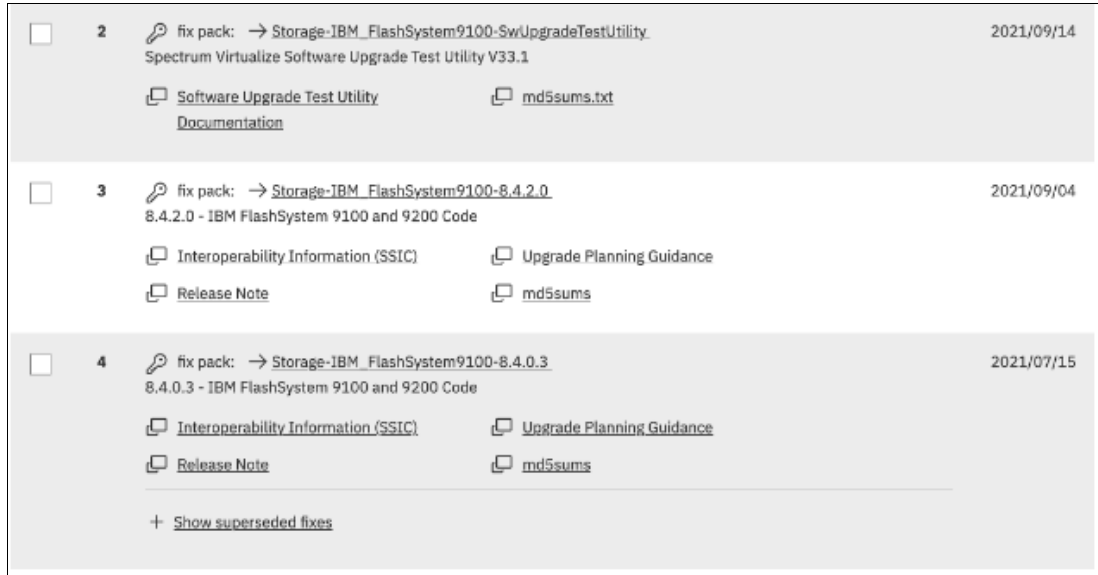

Figure 10-4 Fix Central software packages
4. In the **Product Software** section, select the three items that are shown in Figure 10-4.